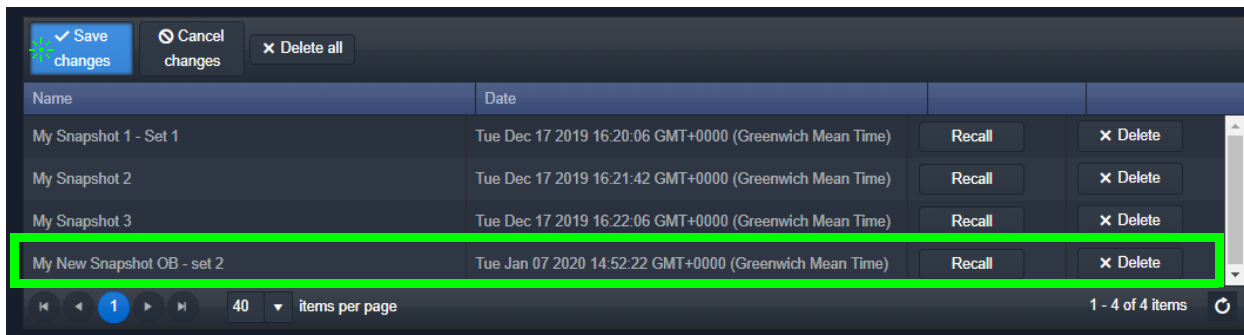

Figure 28: Snapshot Name Changed and Saved
- 3 Click **Save Changes**. (See Figure 28.)